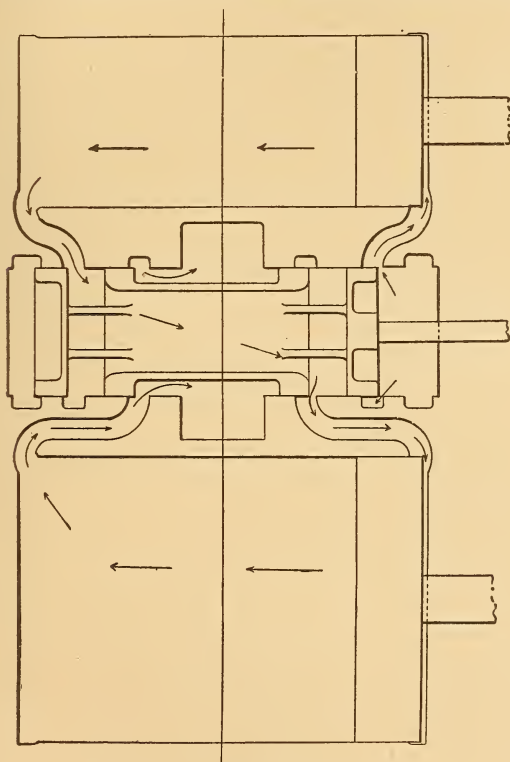
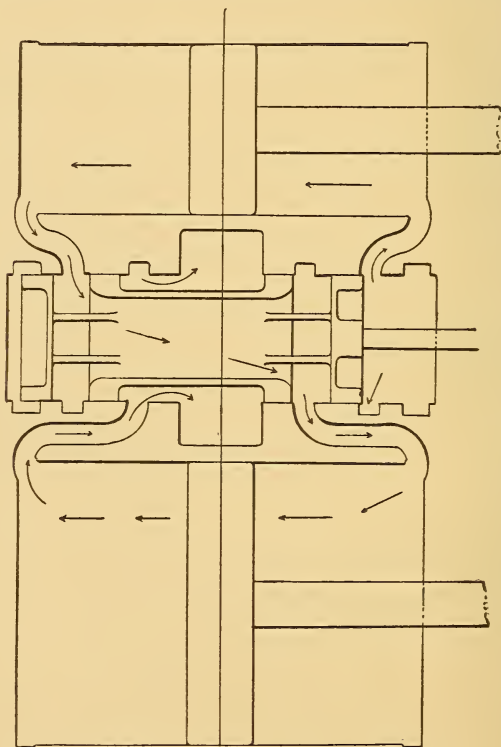
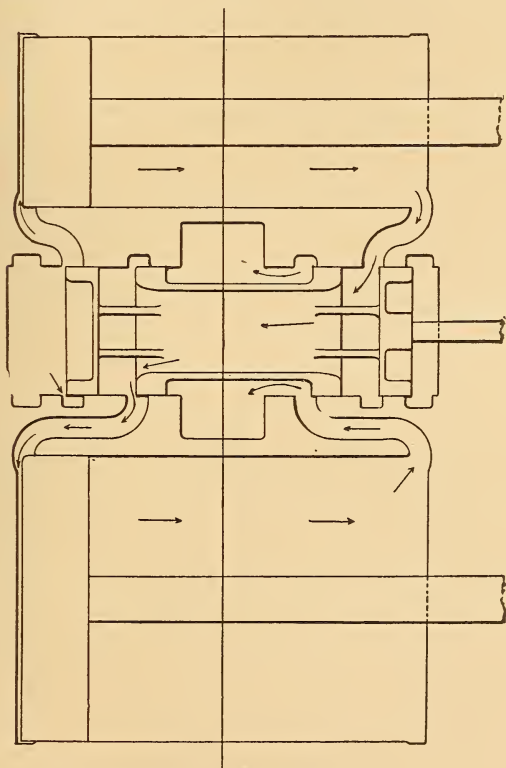

Fig. 170. Vauclain Compound.
Fig. 171. Vaclain Compound.
Fig. 172. Vaclain Compound.
A. Both pistons play together in the same direction at the same time; their position and the relative position of the valve with reference to them being shown in figures 170, 171 and 172. In figure 170, both pistons are at the crosshead end or back end of the cylinder; in figure 171, both are at mid-stroke; in figure 172, both are at front or out ends; the arrows showing the direction of the live and exhaust steam in both pistons and in the valve-chamber.